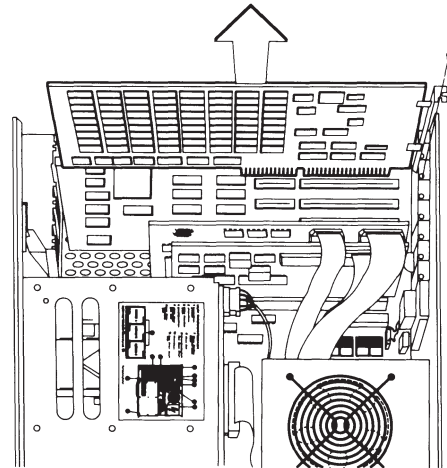

Figure 7-25. Removing an Expansion Board.
7. Lift the board out of the connector(s) on the system board (Figure 7-25).